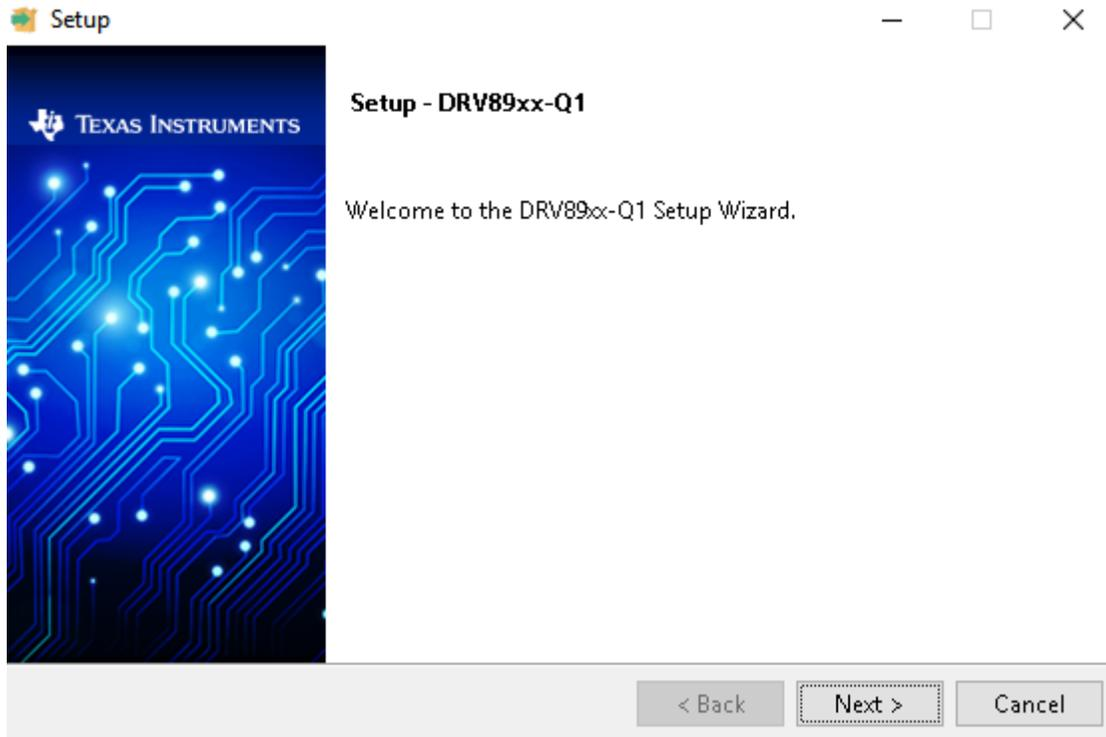

Figure 3. Setup DRV89xx-Q1 Window
- Step 2. Click the *Next* button in the *Setup - DRV89xx-Q1* window (see Figure 3).